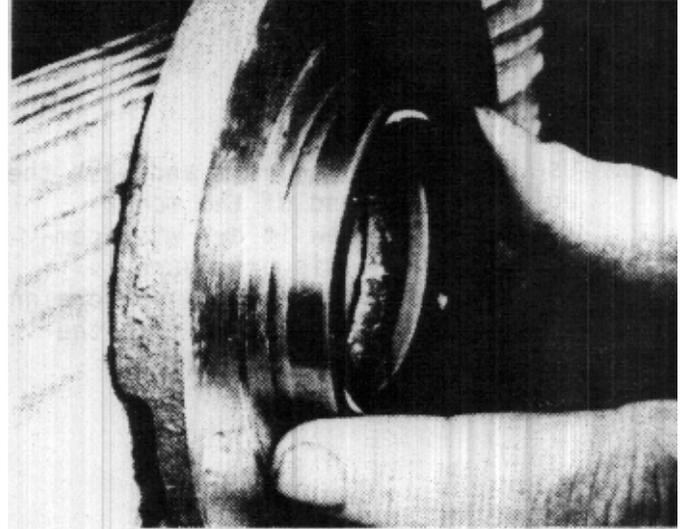

FIGURE 117
9. Place a smooth, clean block of wood against the rubber face of the seal. Carefully tighten the vise and press the seal into the bore. The seal will seat with about half of its thickness dimension still protruding from the bore. This protrusion serves as a pilot while reinstalling the plate on the flange. (Fig. 117)